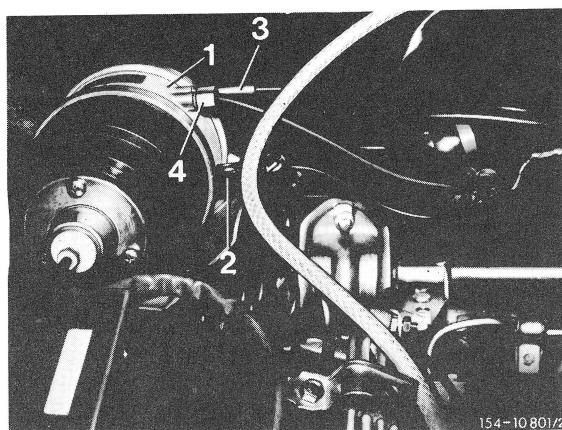

Fig. 1
1. Pull off 2-pole plug (Figure 1, item 2) on throttle actuator.
1. Check vacuum line (3) and vent line (4, Figure 1) for correct and tight connection at the throttle actuator.